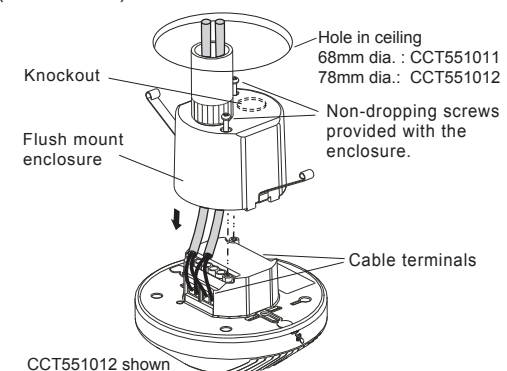

FIG.11
- 3.3.2.2 Open the knockout of flush mount cap with screwdriver if the user wants to use the two tubes, then fix the tubes and put the power cable through them (See FIG.11).